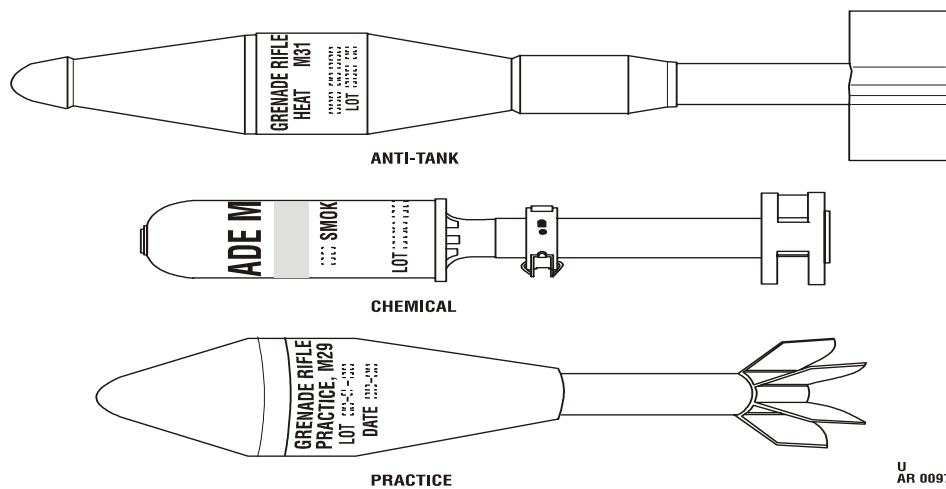

Figure 1-4. Representative types of rifle grenades.
a. *General.* Rifle grenades (fig. 1-4) are fin-stabilized. They are launched from a rifle. The propelling force for the grenade is provided by a special gas-producing grenade cartridge, which is loaded into the rifle chamber. Rifle grenades